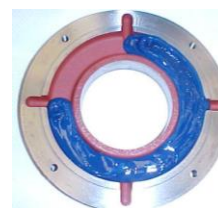

Figure 7.3: Outer bearing cap
- Fill up to  $\frac{3}{4}$  of the inner and outer bearing cap deposits with the recommended grease (Figure 7.3) and lubricate the rolling bearing with enough grease before assembling it;
When the bearing is opened, inject the new grease through the grease nipple to expel the old grease found in the grease inlet tube, and apply the new grease in the rolling bearing, to the inner and outer rings, filling 3/4 of the empty spaces, as shown in Figure 7.3. In case of double bearings (ball bearing + roller bearing), also fill 3/4 of the empty spaces between the intermediate rings. Never clean the rolling bearing with cotton-based cloths, because they leave some lint, working as solid particles.